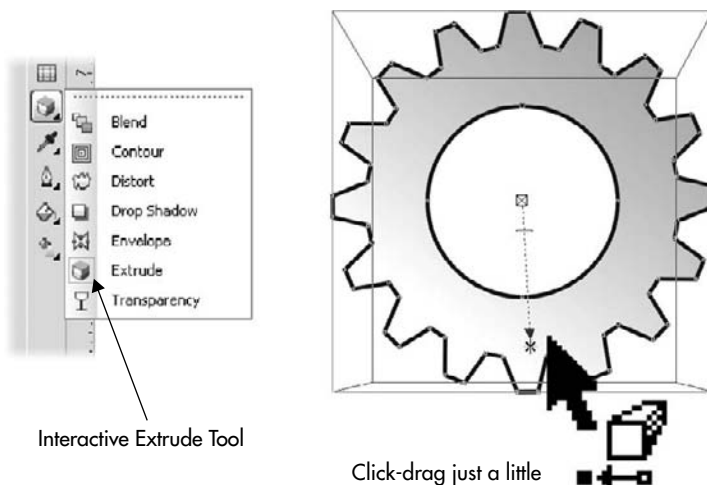

FIGURE 4-4
2. Click-drag *just a little*, straight down on the object, as shown in Figure 4-4. *Just a little* does the trick—you're establishing an extruded object and setting a *vanishing point* for the object at the same time. *Resist* the temptation that accompanies the natural thought, "the more I click-drag, the more extruded the gear will be." Nope—the more you drag, the farther the vanishing point is defined relative to the object, and it's very easy to set the vanishing point clear off the page, and possibly extend it to the Theophilus crater on the moon.